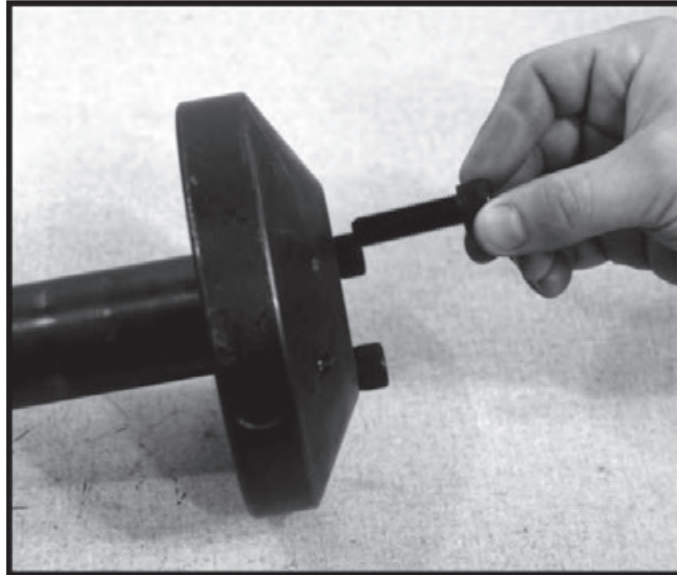

Figure 3-11.
3. Mount the selected adapter over the mandrel head and secure with 3 7/16-20 x 1-1/2 SHCS (Figure 3-11)